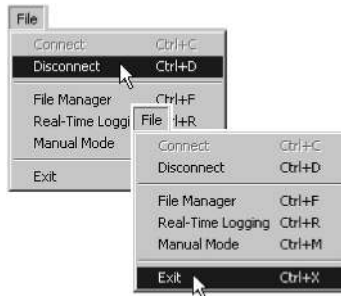

Figure 4-8. File->Disconnect then File->Exit
9. Click **File->Disconnect**, then **File->Exit** to quit PC-CDU (Figure 4-8).